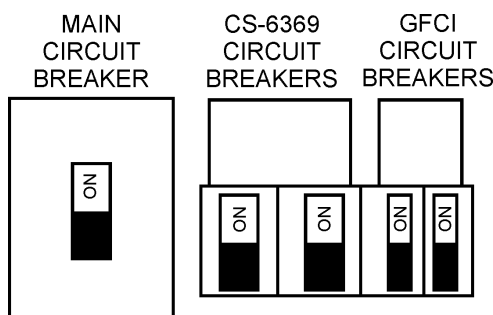

Figure 35. Main, Aux. and GFCI Circuit Breakers (ON)
- Place the **main, G.F.C.I., and aux.** circuit breakers (Figure 35) in the **ON** position.